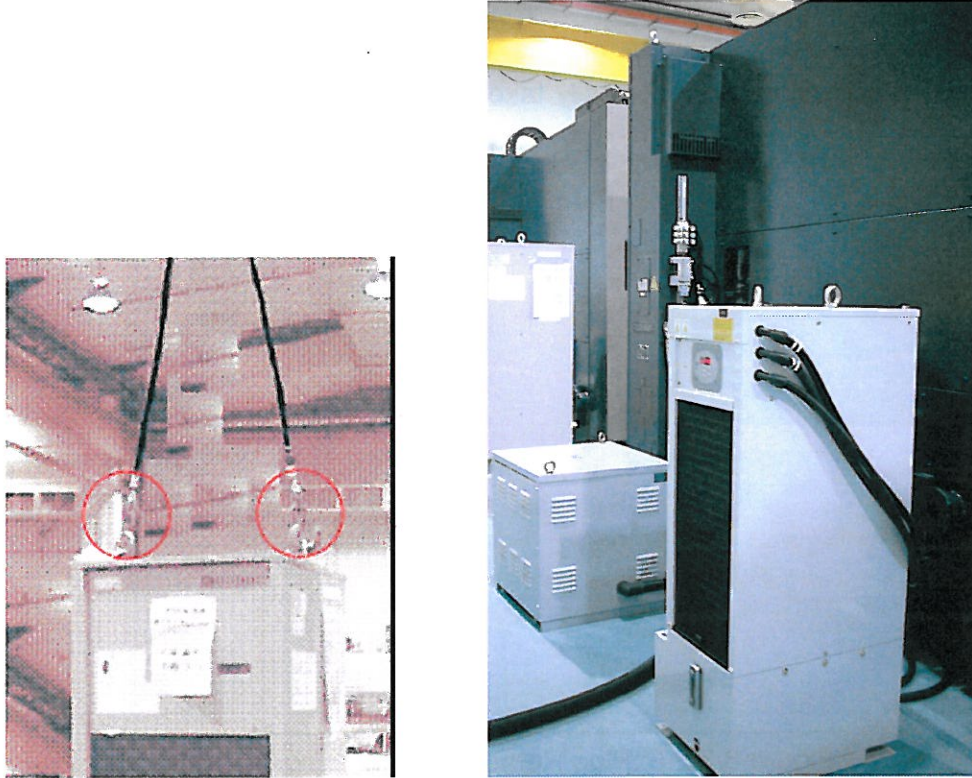

Figure 6.3.2.3: 20K Oil cooler lifting and location
- Use the eyebolt provided in oil cooler to lift the unit which is as shown in the figure 6.3.2.3.